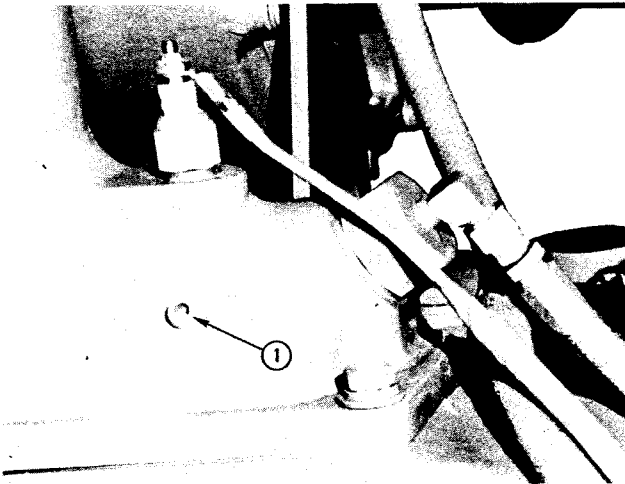

Fig. 1-10, (N11949). Glow plug inspection hole — N/NT-885 Engine
6. If engine gives no indication of starting during first three full strokes of preheater pump, touch-check intake manifold for heat. If no heat, check electrical wiring. If wiring is all right, remove 1/8 inch pipe plug (1, Fig. 1-10) from manifold near glow plug and close glow plug manual switch for 15 seconds and observe glow plug through 1/8 inch plug hole. The glow plug should be white hot; if not, connect wiring to a 6- to 12-volt (as used) source and check amperage; it should be 30 to 32 (minimum). If glow plug is all right, check manual switch and resistor (if used) and replace if necessary.